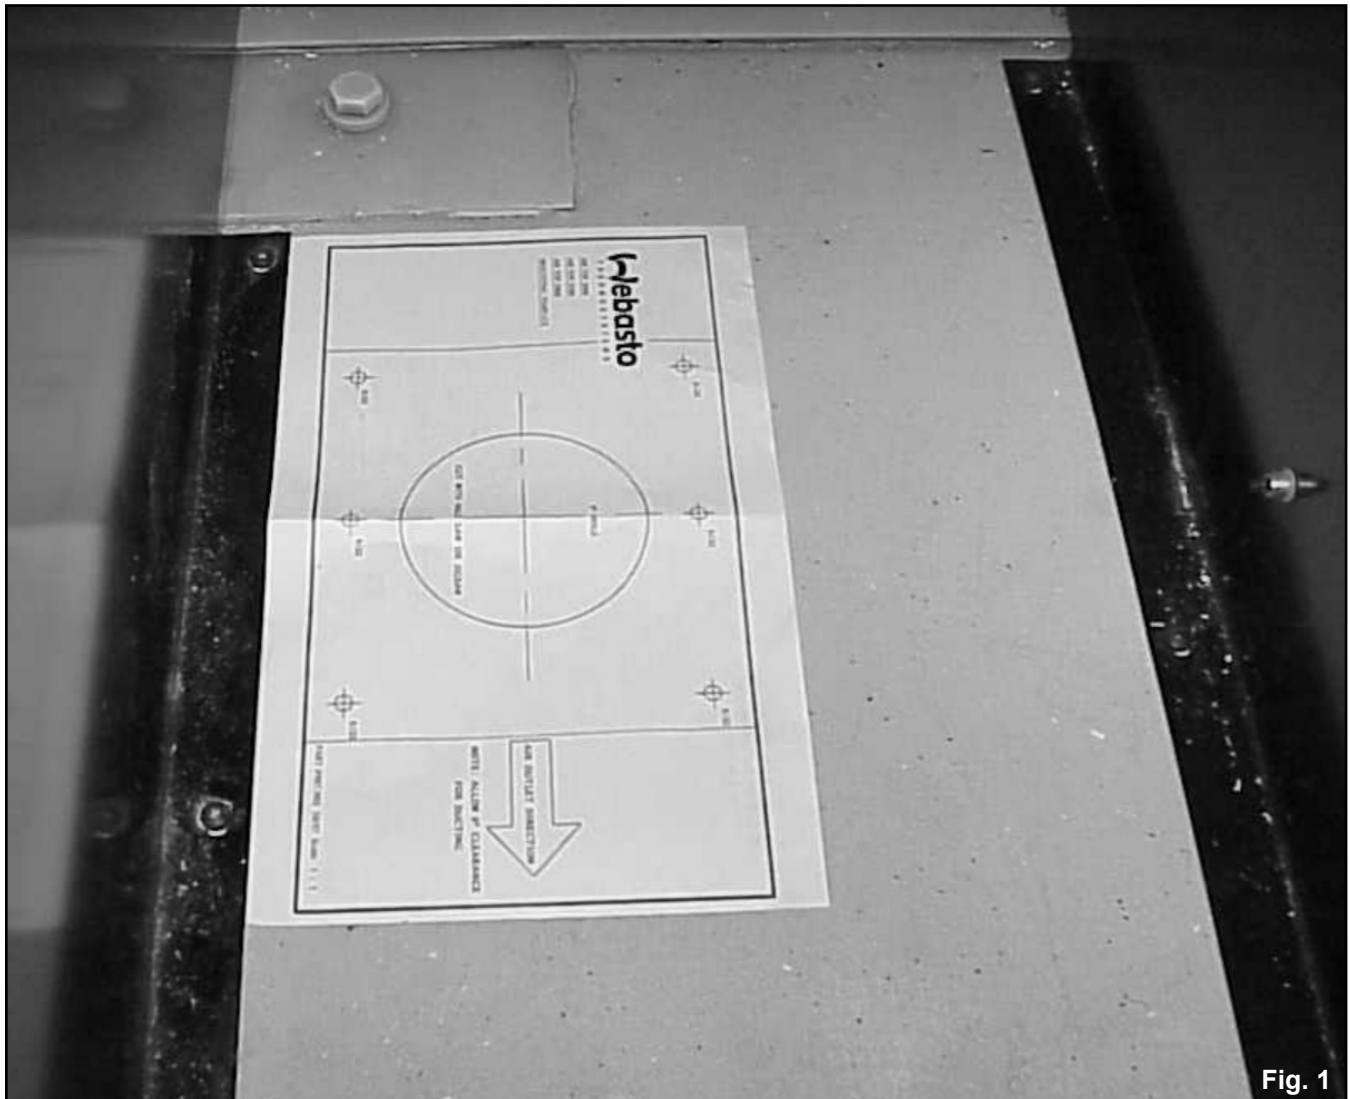

Fig. 1
- After selecting the heater location, use the template (P/N 907902) provided with the heater kit to locate all holes required for mounting the heater to the floor. Observe required clearances around heater and surrounding structures. See figure 1.